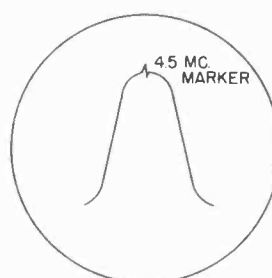

FIG. 13
9. Tune sweep generator to 4.5 Mc. with a 500 KC. sweep and tune slugs on sound IF transformer T54 for response shown in Figure 13.